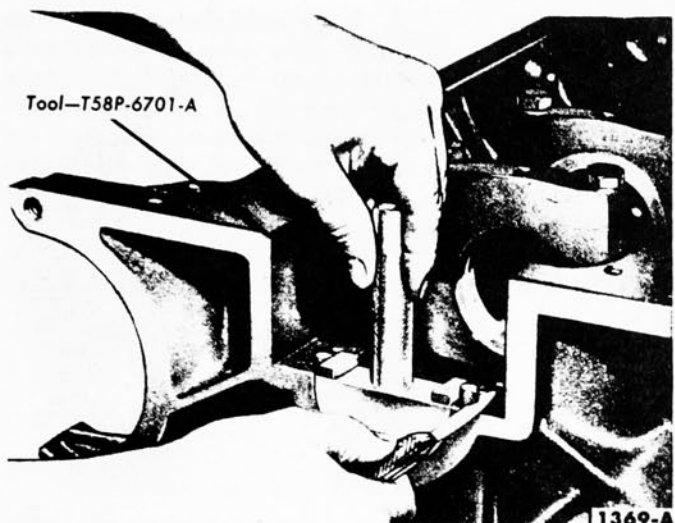
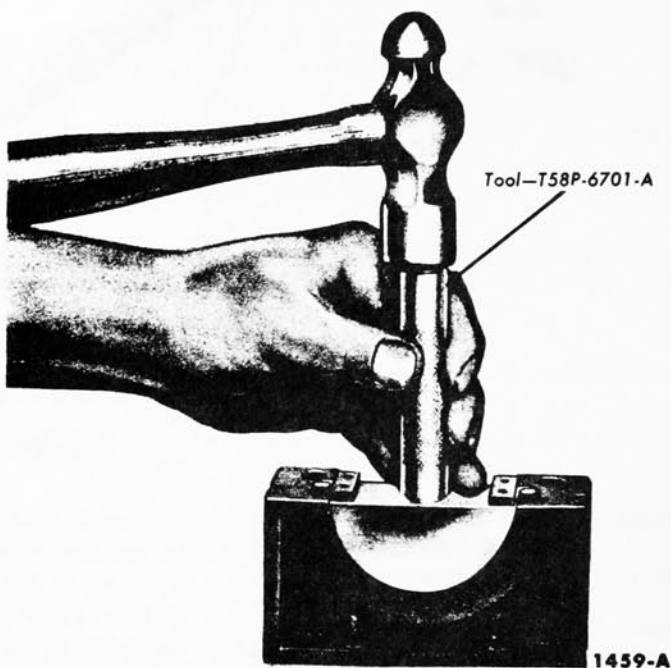

FIG. 37—Seal to Block Installation
FIG. 38—Seal to Rear Bearing Cap Installation
1. Be sure that the rear journal oil seal grooves are clean, then install a new rear journal oil seal in the block (Fig. 37) and rear main bearing cap (Fig. 38). After installation, cut the ends of the seals flush.